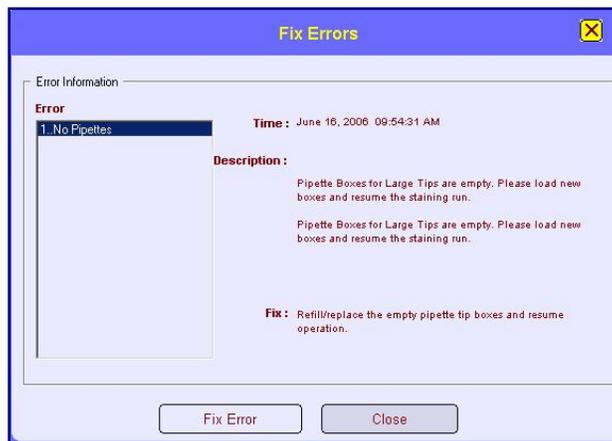

Figure 78: Fix Errors
1. Click on **<Fix Errors>** button in the window. The Z-Head will stop proceeding and the **<Fix Errors>** window will appear with the description of the error condition and the appropriate instruction to correct the problem (Figure 78).